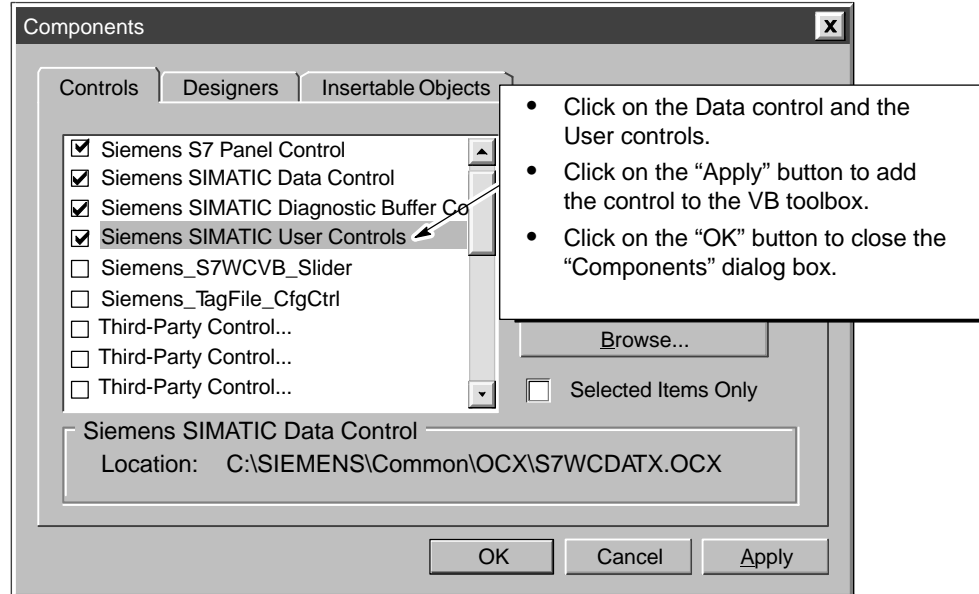

Figure 1-3 Adding SIMATIC Controls to the VB Toolbox
3. As shown in Figure 1-3, select the following SIMATIC controls in the “Components” dialog box: